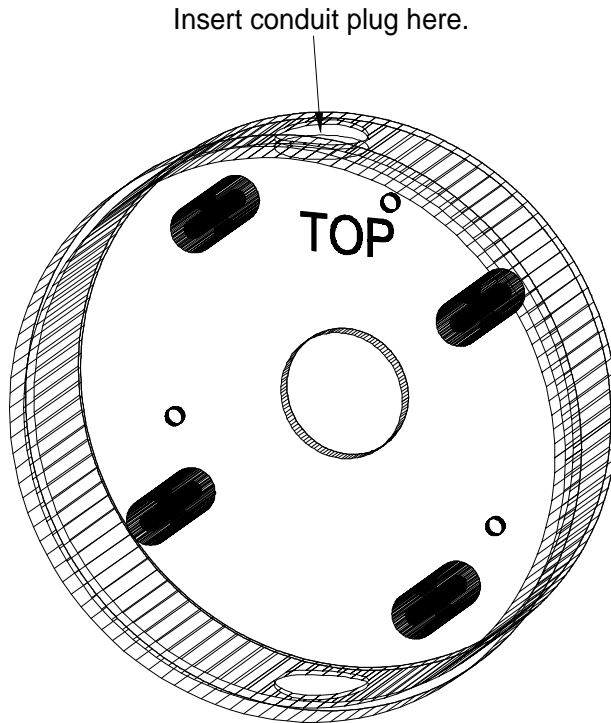

Figure 11 Horn Back Box
6. The weatherproof back box has two threaded conduit holes. Screw the provided conduit plug into the hole near the word “TOP” inside the weatherproof back box (figure 11).